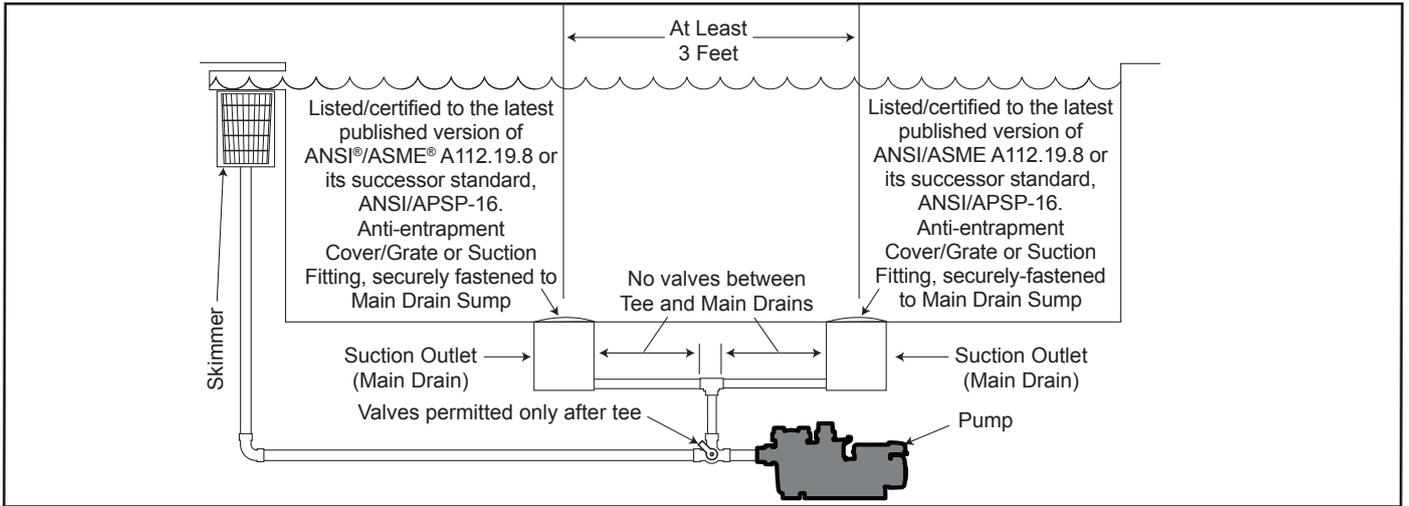

Figure 1. Number of Suction Outlets Per Pump
Number of Suction Outlets Per Pump - Provide at least two (2) hydraulically-balanced suction outlets, with covers, as suction outlets for each circulating pump suction line. The centers of the suction outlets (suction outlets) on any one (1) suction line must be at least three (3) feet apart, centre to centre. See Figure 1.
The system **must** be built to include at least two (2) suction outlets (drains) connected to the pump whenever the pump is running. However, if two (2) suction outlets run into a single suction line, the single suction line may be equipped with a valve that will shut off both suction outlets from the pump. The system shall be constructed such that it shall not allow for separate or independent shutoff or isolation of each drain. See Figure 1.